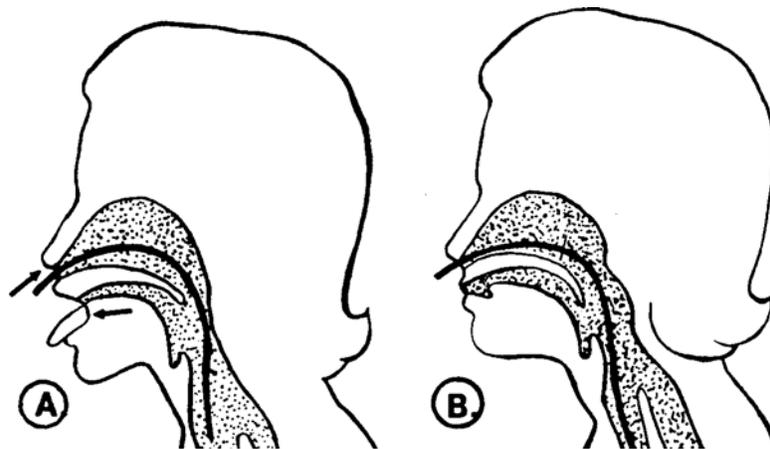

Figure 4-4. Inserting catheter using nasotracheal route.
(1) Estimate the distance the catheter is to be inserted. Do this by measuring from the patient's nose to the tip of his ear, then to his larynx.
(2) Lubricate the tip of the catheter by dipping it into the basin of sterile solution.
(3) Instruct the alert, cooperative patient to flex his head and stick out the tongue. This helps to keep the patient from swallowing and makes the catheter insertion easier.
(4) Gently insert the suction catheter into the nasopharynx without suctioning. (Remember, it is usually easier to insert the catheter into the right nostril.) If the catheter cannot be inserted into the nasopharynx through either nostril, remove the catheter and obtain assistance from your supervisor or other appropriate personnel.
(5) Quickly and gently advance the catheter into the trachea (figure 4-4). The insertion process may cause the patient to cough. Mild coughing is usually not a problem and may actually help in the insertion process.